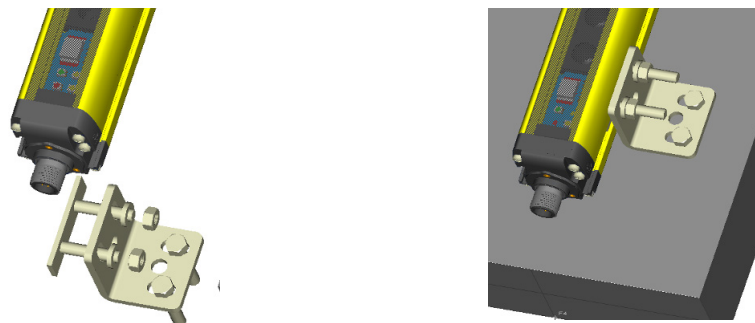

Figure 13: Fixed mounting brackets
1. Pre-install the brackets (see Figure 13). Loosely tighten the nuts